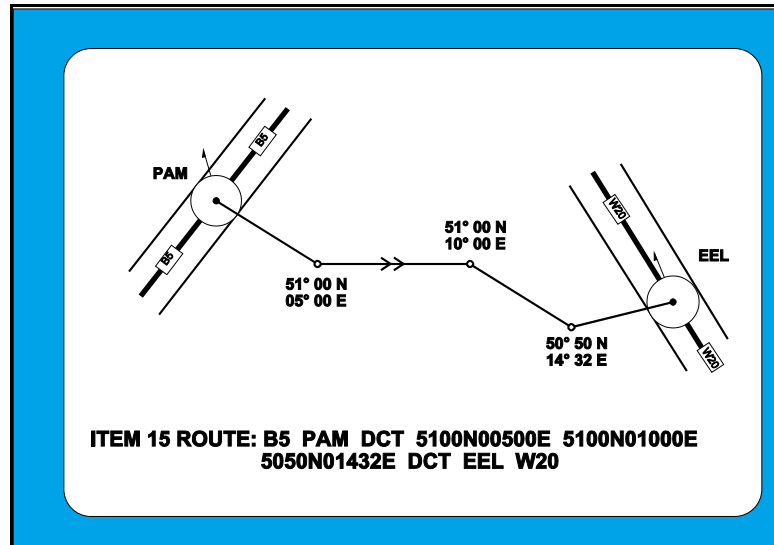
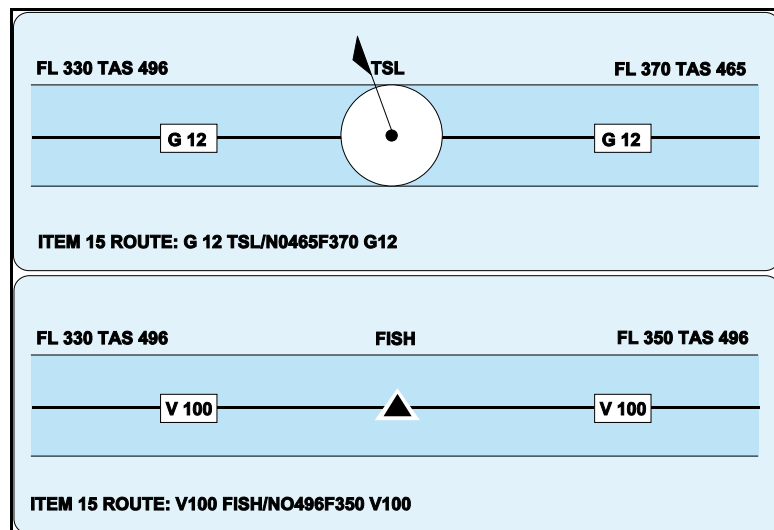

Figure 14.4 Use of DCT - Leaving and Re-joining Airways
Figure 14.5 Change of Speed and/or Level
- DCT is not required between successive points defined by latitude and longitude or a bearing and distance from a Navaid. (Figure 14.4)
- **Only points of change** are to be entered in item 15. Insert each point at which there is a change of;
- Speed or level. A **change of speed is 5% of TAS or 0.01 Mach or more**. If there is a change of level or speed both must be entered even though only one has changed. (See Figures 14.5).